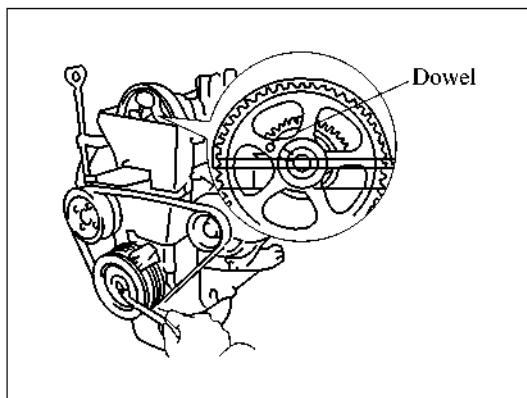

Figure 4-2-11 Align the Assembling Symbols on Gear
5.5.3 Align the assembling symbol on each gear (see Figure 4-2-11) and let the inlet camshaft gear engaged with the exhaust camshaft gear.